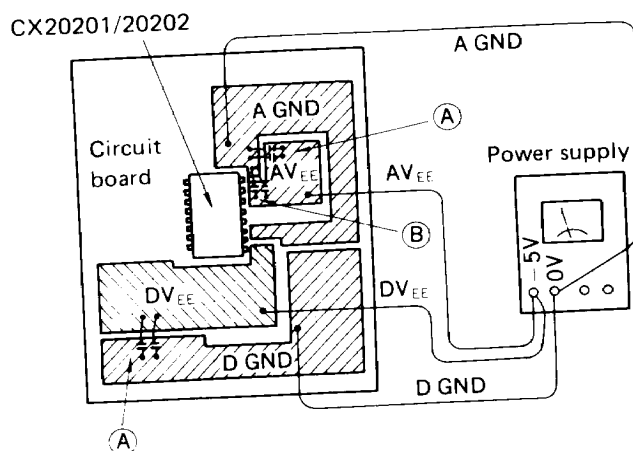

Fig. 18
- It is desirable that A GND (Analog Ground) and D GND (Digital Ground) are separated each other, and so as, $A V_{EE}$ and $D V_{EE}$ are. It is recommended that, for example as shown in Fig. 18, the wiring of A GND and D GND, $A V_{EE}$ and $D V_{EE}$ should be separated each other except the power supply, and they should be made common very close to the source.
- The coupling capacitors, $47\ \mu\text{F}$ (tantalum) and $1000\ \text{pF}$ (ceramic) in parallel, should be utilized between the V_{EE} and GND plane which are placed next to each other. (As shown in Fig. 18 (A).) Also, it is desired that they should be placed between the V_{EE} and GND plane in the vicinity of the IC. (As shown in Fig. 18 (B).) These parts are needed to prevent bad effects in characteristics of the IC caused by noises coming inside.